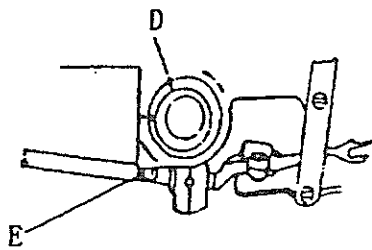

Fig. 21
- a) Loosen Bolt E, and move Eccentric Bushing D left and right. Tighten Bolt E again when the correct position is obtained. (Fig. 21)
a) Loosen Bolt E (Fig. 21) and turn Eccentric Bushing D till the clearance is obtained with the spreader at the right end.